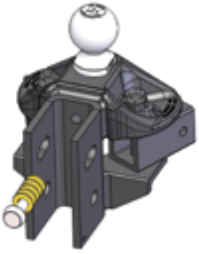

Figure 1
2. Insert the spacer rivet with washers into the back of the hitch head. Start with 5 spacer washers for most setups. (Figure 1)